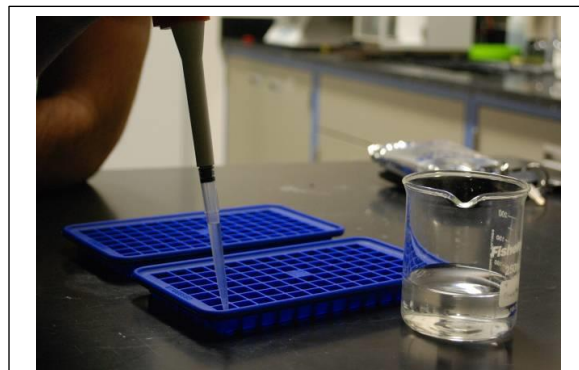

Figure 3 - Pipette 1.3 mL water into ice cube trays.
5.2.3 Prepare ice cubes. Use the micropipette to dispense 1.3 mL of distilled/deionized water into the apertures of the ice cube trays to create 103 ice cubes (Figure 3). Thirty-three ice cubes are required for a single test and three tests will be performed. Four extra ice cubes should be prepared in case some are damaged or do not freeze entirely.